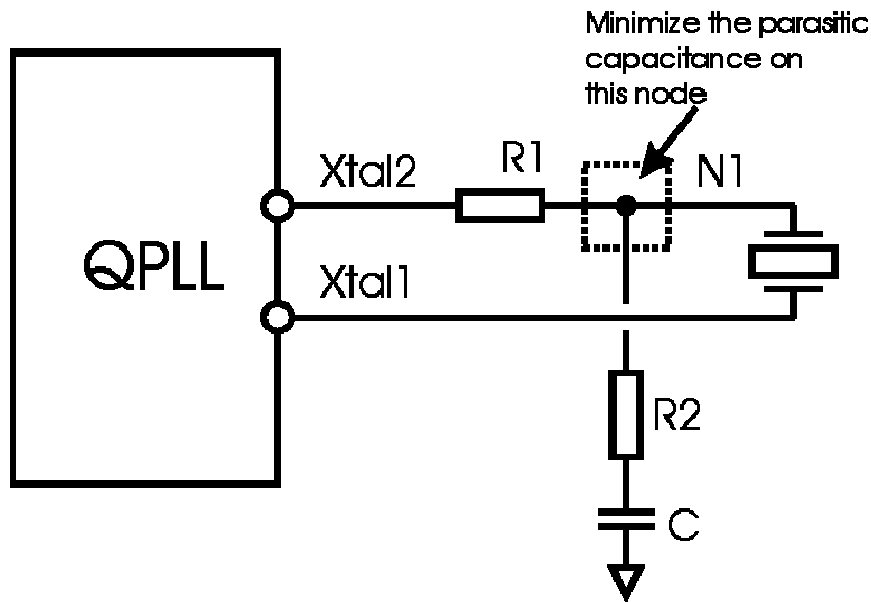
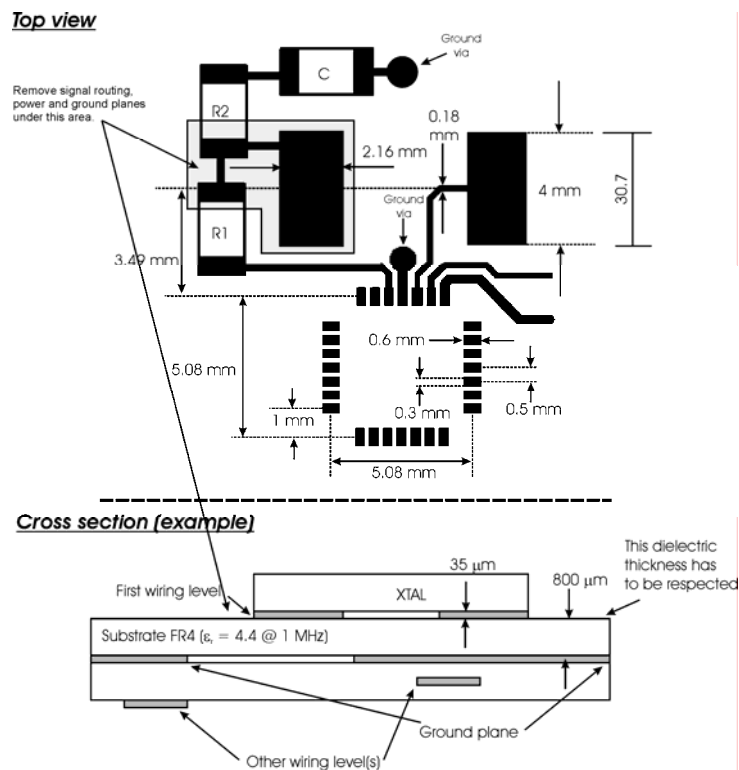

Figure 5 Power reduction network
Figure 10 Recommend layout for the QPLL and crystal interconnection
The network that should be used to reduce the power delivered to the crystal by the QPLL is represented in Figure 5. It is composed of two resistors (R1 and R2) and a capacitor (C). It should be inserted between the crystal and the QPLL as indicated. Notice that although the crystal is a symmetrical device the network must be connected to pin XTAL2.
second, make sure that the circuits built by the QPLL users display a load capacitance which is identical to the specified crystal load capacitance. It is thus strongly recommended that the users adopt the layout represented in Figure 10 for the interconnections between the QPLL and the quartz crystal. Failing to do so, it might result in the best case in a reduced or asymmetrical lock range and in the worst case in the impossibility to lock to the LHC frequency. It is thus the user responsibility to follow the recommended layout for the interconnections between the quartz crystal and the QPLL as close as possible.
As indicated in Figure 5, it is very important to minimize any stray capacitances on node 1 (N1) of the resistive divider. To have an idea of the parasitic capacitances in the circuit, just the crystal soldering pad alone represents about 0.43 pF if the dielectric has a thickness of 800 μm (0.49 pF for 700 μm and 1.72 pF for 200 μm). The parasitic capacitance on node N1 has two detrimental effects: First, it increases the power delivered to the crystal, and second it pulls low the resonance frequency of the circuit. It is thus important to reduce as much as possible the parasitic capacitance on this node. For that, the power and ground planes should be eliminated under the soldering pads of R1, R2 and the crystal soldering pad that is connected to this node. Signal routing must be avoided under this area. Please see Figure 10 for a suggestion on how the layout should be done.